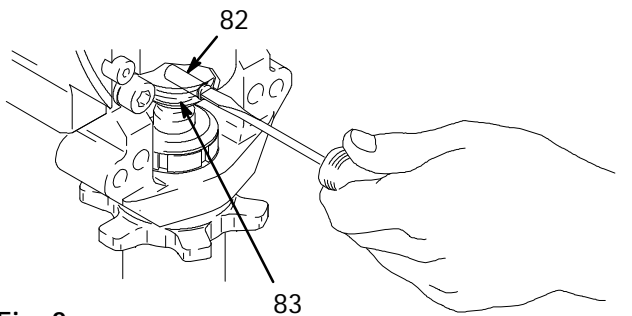

Fig. 2 7675B
3. Unscrew suction tube (27) from pump, hold wrench on pump intake valve (A) to keep pump from loosening.
4. Disconnect pump outlet hose (25) from displacement pump outlet nipple (107).
5. Fig. 2. Use screwdriver to push up retaining spring (83) at top of pump. Push out pin (82).